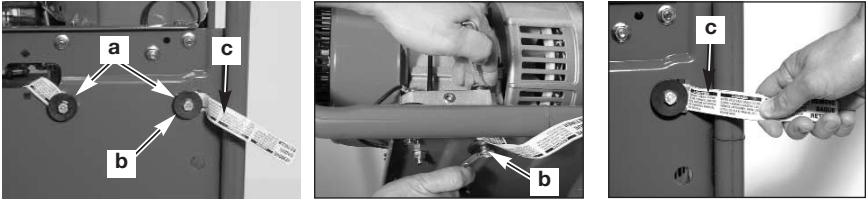

Figure 1a
- **(if equipped)** Remove shipping shims. See Figure 1a.